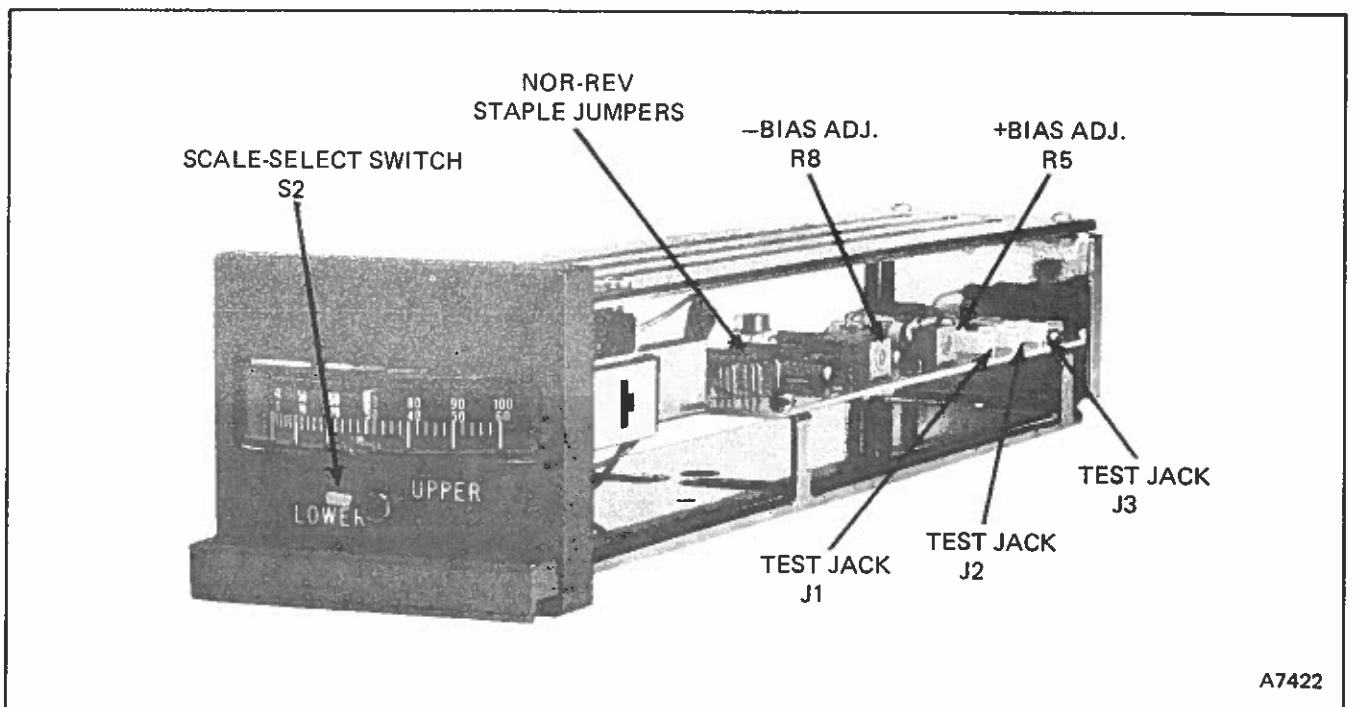

FIGURE 33 – Measured Variable Stations (TY10, TY11) Adjustments (TY10 shown)
1. Remove Station from Enclosure. Adjust meter zero until meter pointer is at mid-scale. (Figure 33).
### TY10, TY11 Measured Variable Stations Calibration (refer to Figures 33, 41)